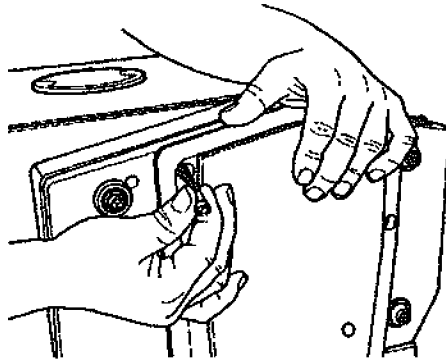

Fig. 40
49. Attach the pulley guard to the planer with four socket head cap screws (115), as in Fig. 40. Finger tighten.